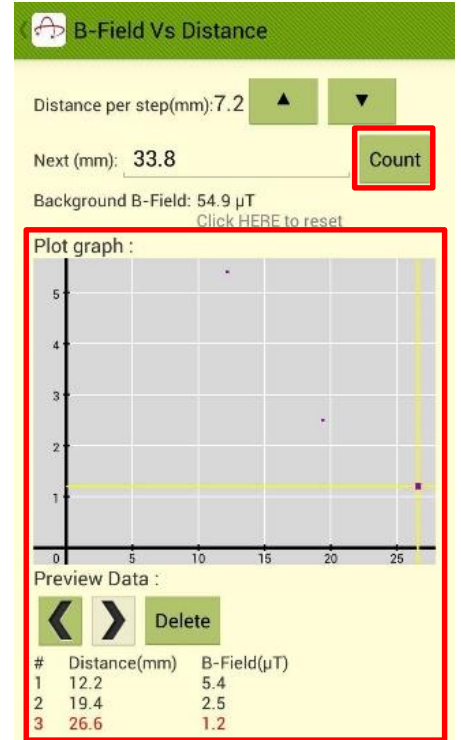
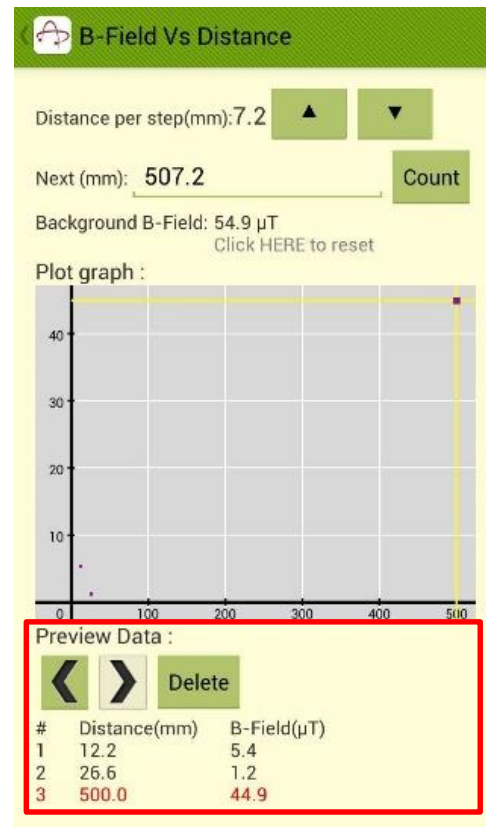

Fig 5.14
Fig 5.16
- When you move the device to the desired distance, press “Count” to record the data and plot the point on the graph. The app will automatically be ready for counting the next data point. You can check the data recorded in the table at the bottom of the interface (Fig 5.14).
- Under the “Preview Data”, you can press the “Left/Right Arrow” to pick the desired data point, shown as red. Undesired data point can be deleted by pressing “Delete” button. Note that the “Delete” action is irreversible. In Fig 5.16, the 2nd data point from Fig 5.14 is deleted.